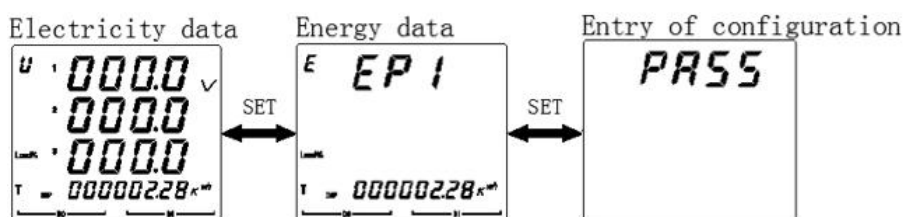

Figure 12
5.2.1 The steps for viewing various types of power parameters of the PM-310/320 are shown in Figure 12. PM-310/320 three-phase power meter: